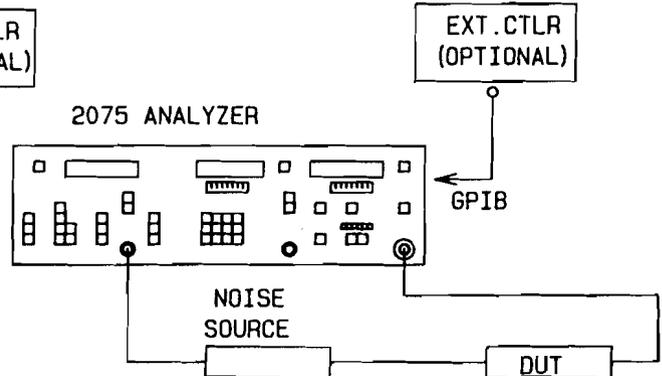

Figure 3-5b. TEST CONFIGURATION 1 Measurement
- 12. Insert the Device Under Test into the setup, as shown in Figure 3-5b. If external relays are being used, ignore this step. Upon completing the calibration, the 2075 removes the actuating voltage from the relays to place the DUT in the measurement path (unless Special Function 10.1 has been activated).